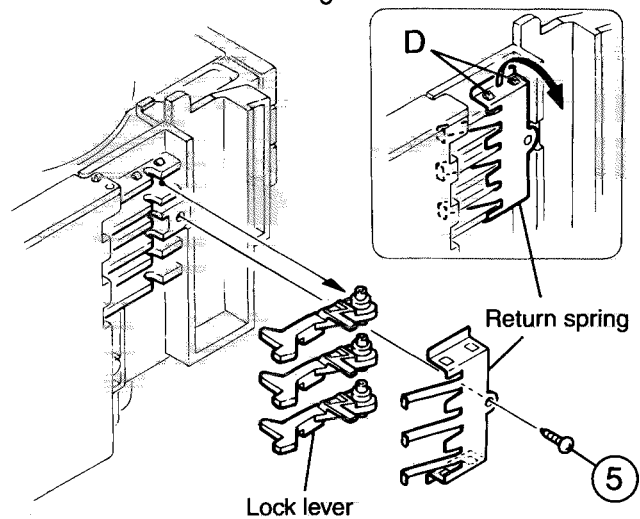

Fig.4
8. From the left side face of the chassis assembly, remove the one screw 5 retaining both of the return spring and lock lever (See Fig. 4).
9. By removing the pawl at the section "D" fixing the return spring, dismount the return spring (See Fig.4).
10. Remove the three lock levers (See Fig.4).